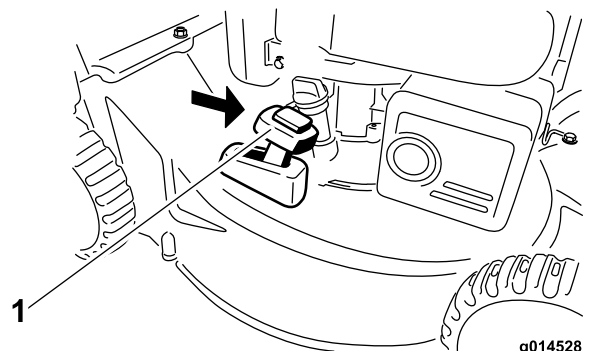

Figure 18
2. Install the grass bag; refer to Removing the Grass Bag (page 11) and move the bag-on-demand lever to the **bagging** mode (Figure 18).
**Note:** If the grass bag is on the machine, remove it before rear-discharging the clippings; refer to Removing the Grass Bag (page 11). The bag-on-demand lever should be in the **bagging** mode (Figure 18).